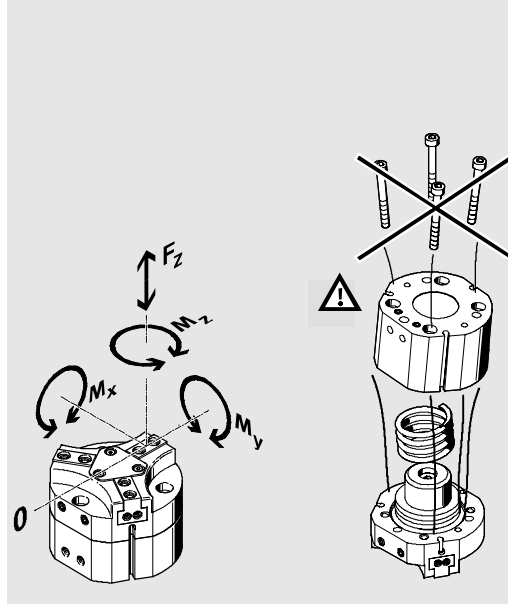

Fig. 2
High spring forces cause the piston cap on the HGDT-...-G... to fly outwards (Fig. 2, right). Please ensure that the piston cap is pretensioned to 1300 N.
– Torques Mx, My and Mz (see Fig. 2, left)
– Gripper finger length (X).